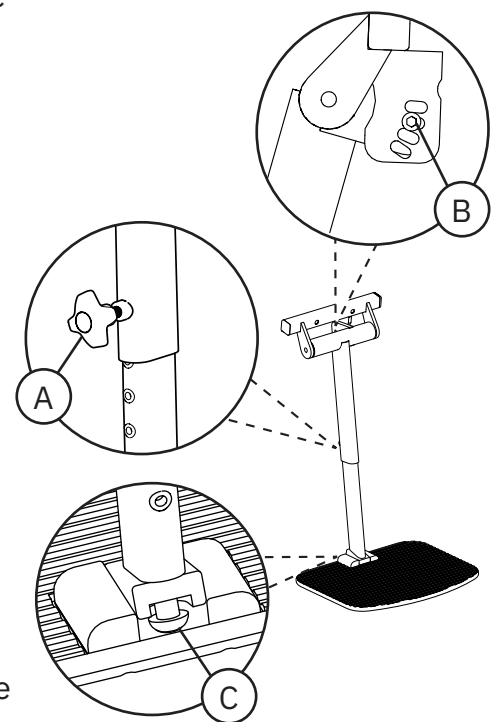

Figure 5.25. Centre-mounted leg support.
The centre-mounted leg support is adjustable in height (A), angle of leg support (B) and angle of foot plate (C), see Figure 5.25.